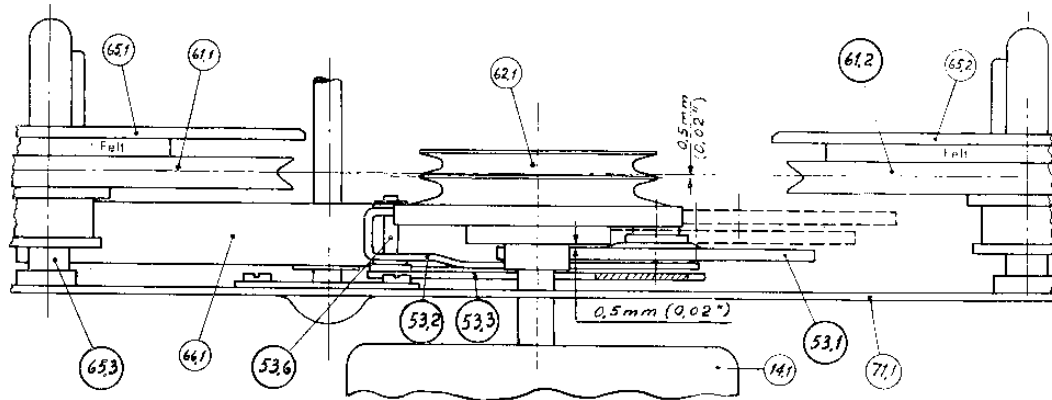

Fig. 14. Driving Mechanism
A side view of the driving mechanism with the transfer wheel (53.1) in the  $1\frac{7}{8}$  ips position is shown in fig. 14. The speed transfer wheel (53.1) has three different positions, corresponding to the three speeds. In the two lowest positions ( $1\frac{7}{8}$  and  $3\frac{3}{4}$  ips) the spacing between the upper edge of the speed transfer wheel (53.1) and the motor pulley (62.1) shall be 0.5 mm (0.02"). In the upper position ( $7\frac{1}{2}$  ips) the upper edge of the speed transfer wheel (53.1) should be below the upper edge of the flywheel (66.1).
with a little roller (59.21) against the curvature of the cam disc (59.7). The transfer wheel (53.1) is lifted so far that it can easily be lifted to the track for  $3\frac{3}{4}$  ips. The lifting is done by the slope of the cam disc (59.17) which is pushed underneath the transfer wheel arm (53.3), (see figs. 14, 15, and 16).
- (Figs. 14, 15, 16, and 17).
connection line between the bottoms of the V-shaped grooves in the pulley disc (61.1 or 61.2), (see fig. 14).